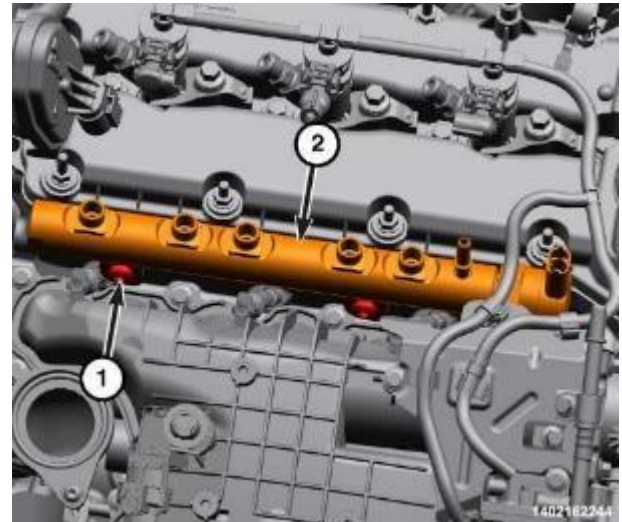

Figure 36 – Left Fuel Rail Bolts
- 67. Using the Remover-Installer, Fuel Rail Bolt 2025400090, remove the bolts (1) and the left fuel rail (2) and discard (Figure 36).